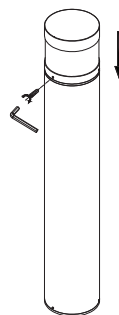

Fig. 10
9. Tighten the set screws x3 with hex wrench. (Fig 10), Installation is completed, connect to main power to operate the fixture